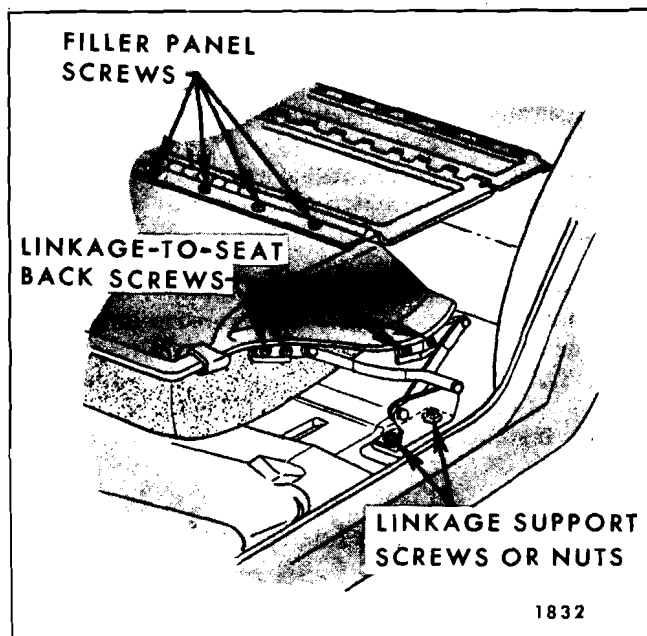
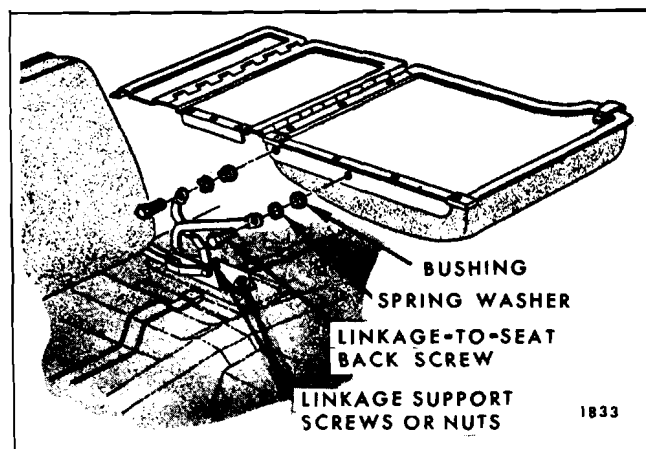

Fig. 15-78—Folding Second Seat Back Linkage and Filler Panel
Fig. 15-79—Split Second Seat Inner Linkage
3. Mark position of folding second seat back linkage supports on floor pan. Remove nuts from both sides of seat back securing linkage supports to floor pan (See Figure 15-78 for full width seat, Fig. 15-79 for split seat).
4. To remove linkage from folding second seat back remove linkage-to-seat back panel attaching bolts and remove linkage - See (Fig. 15-78 for full width seat, Fig. 15-79 for split seat).
5. To install, reverse removal procedure. If linkage was removed from split seat back, make sure bushings and spring washers are properly installed prior to installing linkage attaching bolts. (See Fig. 15-79).
2. Move folding second seat back forward just sufficiently to remove two lower linkage-to-seat back panel attaching screws. (See Fig. 15-78).
4. Remove two upper linkage-to-seat back panel attaching screws. (See Fig. 15-78).
5. Remove nuts securing linkage support to floor pan (See Fig. 15-78), then carefully remove linkage assembly from seat back and floor pan.
3. Remove nuts securing inner linkage assembly to floor pan (See Fig. 15-79).
4. Remove inner linkage-to-seat back bolts from both right and left seats (See Fig. 15-79); then carefully disengage inner linkage from seat backs and floor pan studs and remove linkage assembly.
5. To install, reverse removal procedure. Make sure bushings and spring washers are properly installed prior to installing linkage attaching bolts to both right and left seat back panels. (See Fig. 15-79).